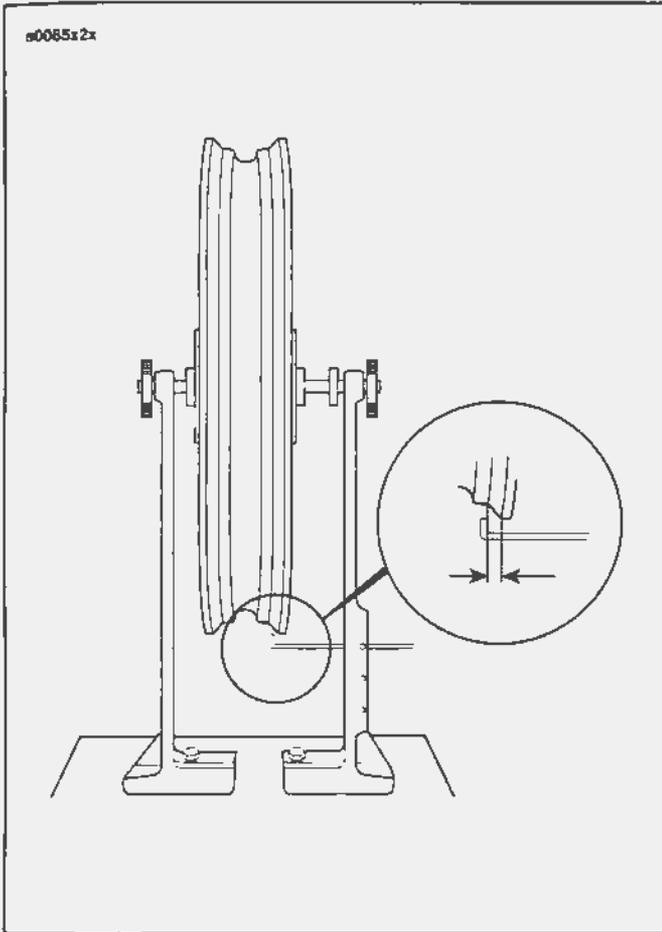

Figure 2-32. Checking Disc Rim Lateral Runout
5. See Figure 2-32. After rim has been trued sideways it must be checked and trued radially. Adjust truing stand gauge to the rim's tire bead seat as shown. The rim should be trued within 1/32 in. (0.79 mm).
1. See Figure 2-32. Install arbor in the wheel hub and place wheel in the truing stand. To check rim lateral runout, place a gauge rod or dial indicator near the rim